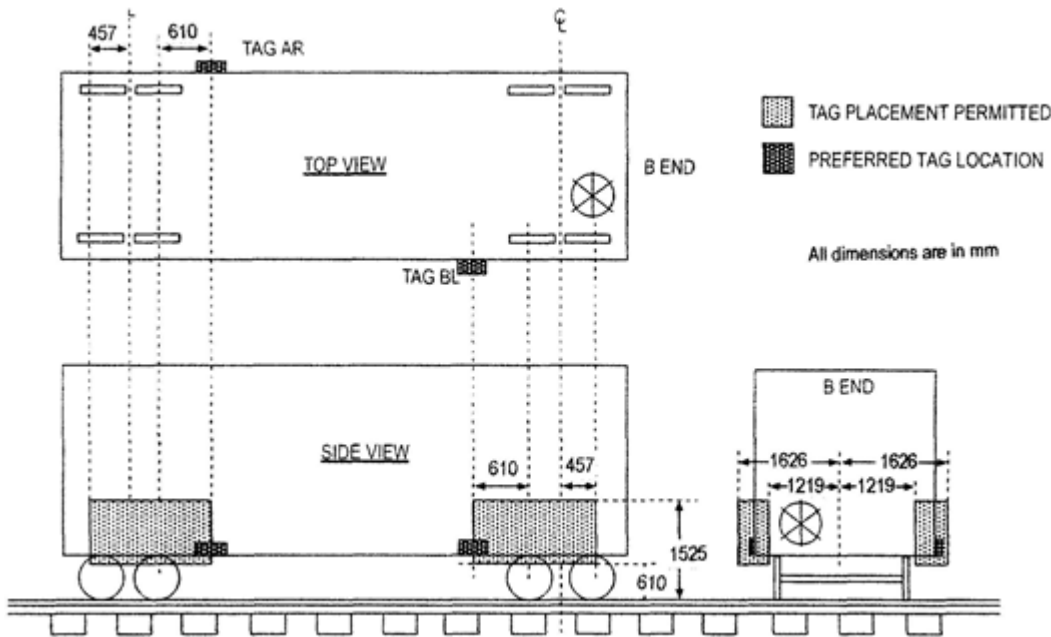

Figure 2 - Location of AEI tags – Four axle freight & passenger vehicles.
- Figure 2 Four axle freight and passenger vehicles (AAR S-918 Exhibit A)